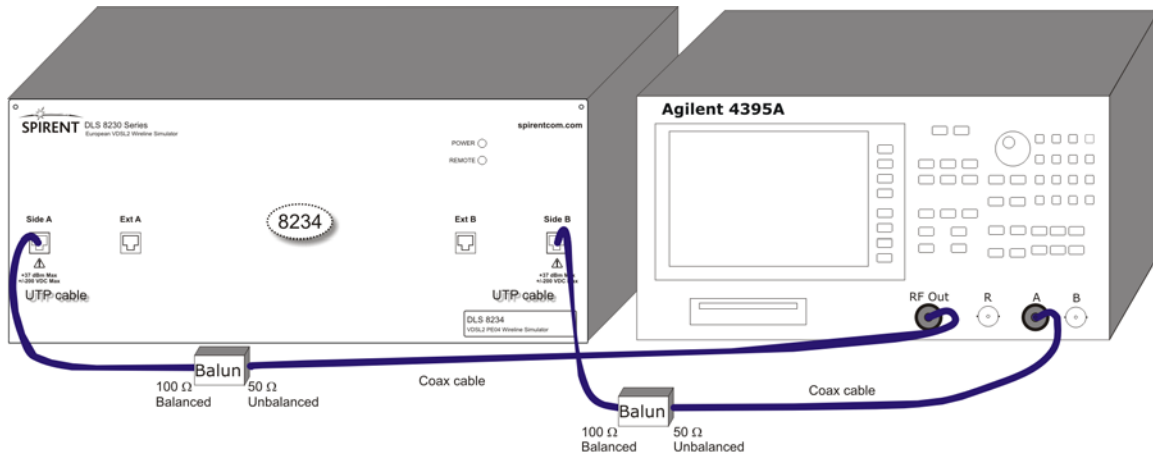
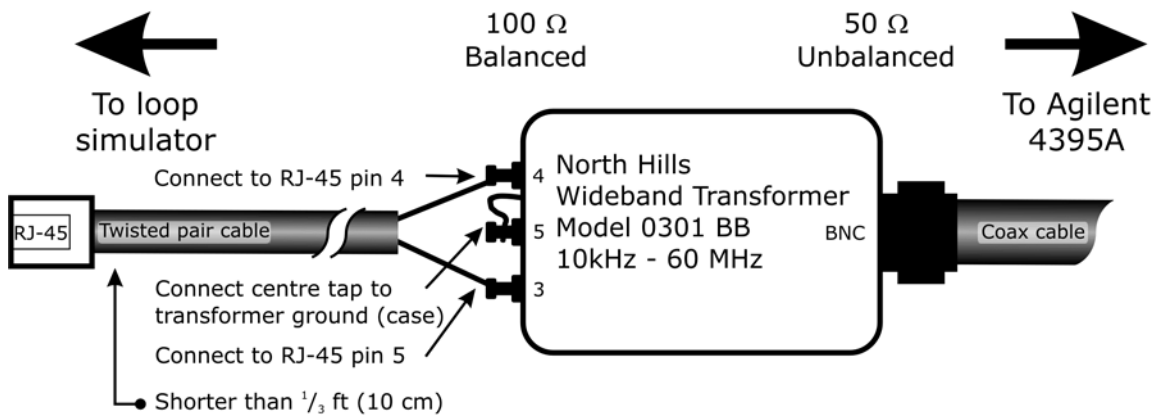

Figure 4-1 Equipment set-up for compensation test
Figure 4-2 North Hills 50/100 ohm transformer, Model 0301 BB
Figure 4-1 illustrates the compensation test set up.
- Two Spirent 50 Ω to 100 Ω balun transformers (preferred, available as an optional accessory, part number DLS-8A14) or two North Hills 0301BB wideband transformers wired as shown in *Figure 4-2* on page 3.
Use the set-up shown in *Figure 4-1* when performing compensation tests. Balun transformer connection details are shown in *Figure 4-2*.